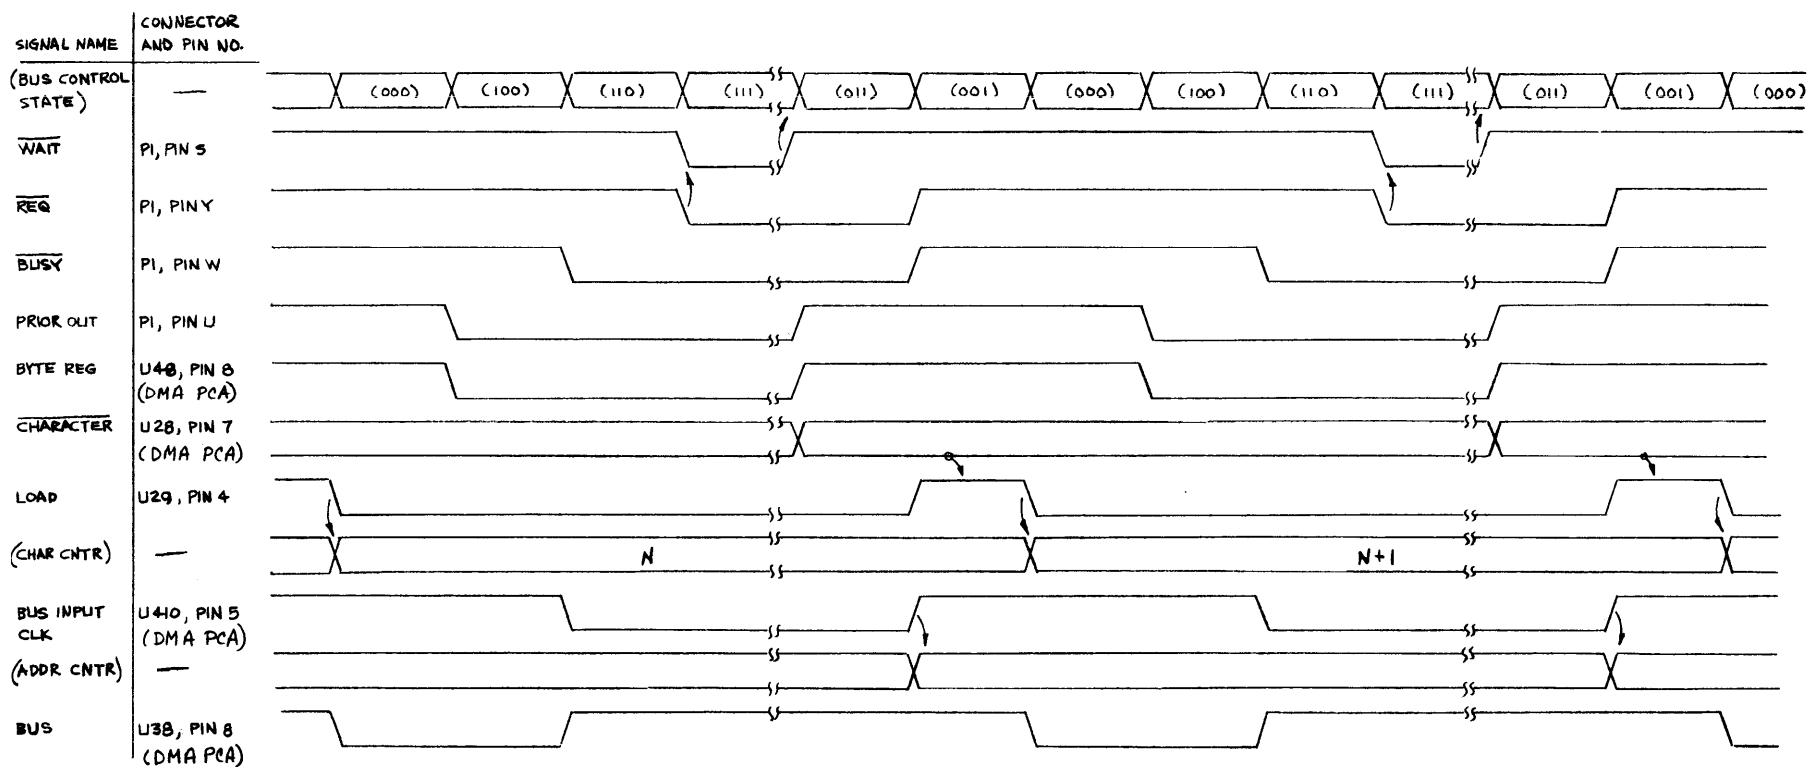

Figure 12
4.0 FUNCTIONAL DESCRIPTION - DMA PCA. Refer to the DMA PCA block diagram (figure 10),schematic diagram (figure 11),timing diagrams (figures 12 through 14), DMA data encoding (figure 15), component location diagram (figure 16), and parts list (02640-60009) located in the appendix.